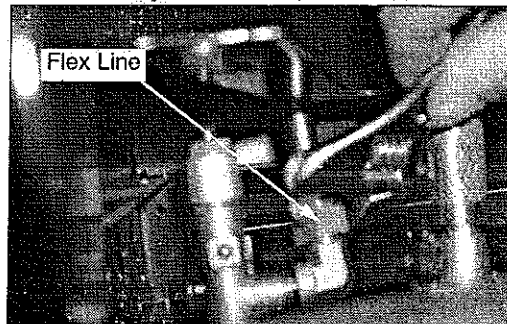

Fig 11
11. Use a 3/4" wrench to disconnect the flex line from the Back IR Valve. (See Fig. 11)
19. Connect the flex line to the valve with a 3/4" wrench. (See Fig. 11 on previous page)